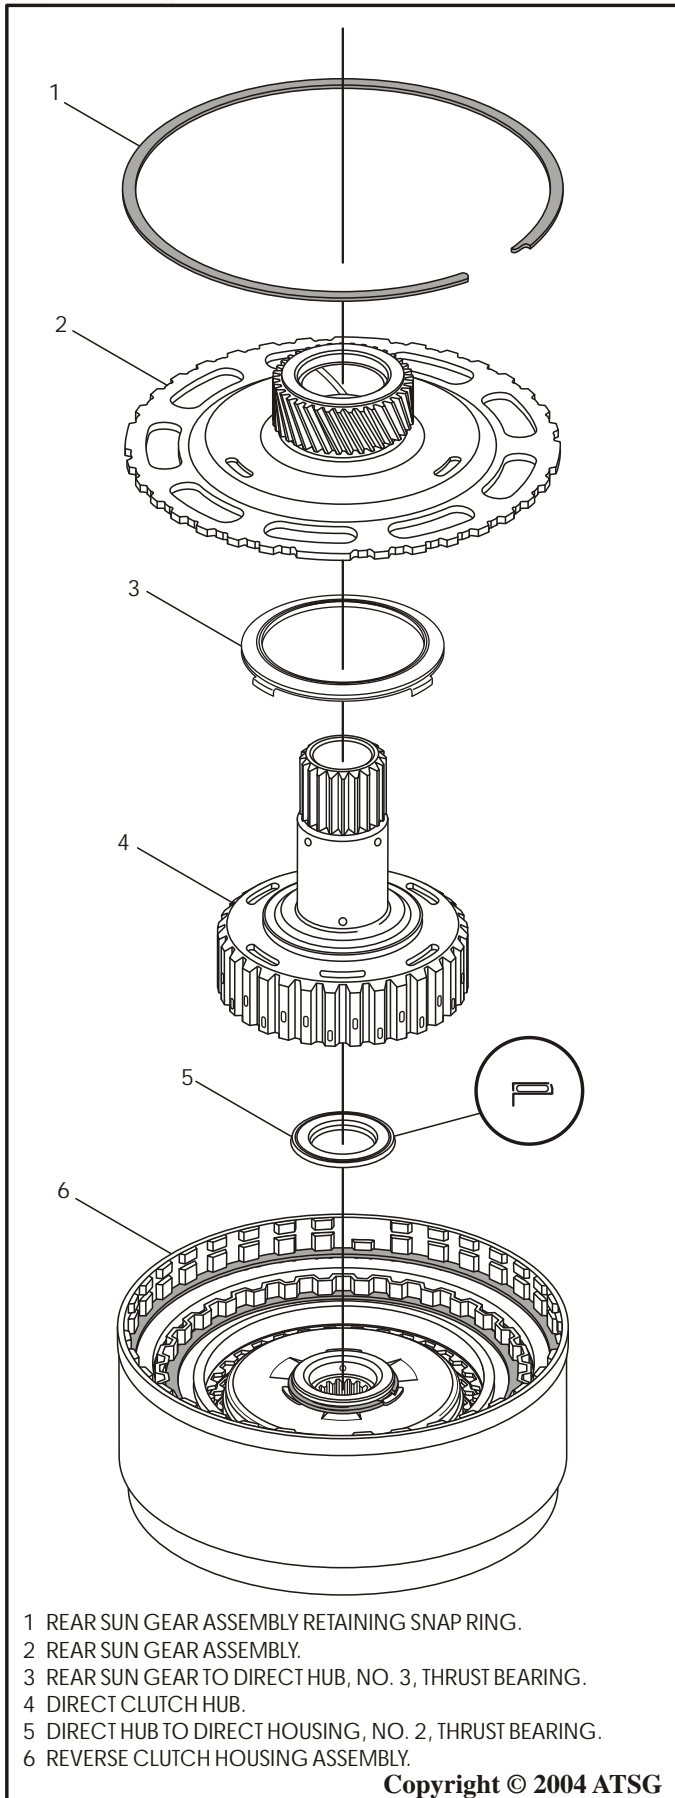

Figure 74
1. Lay the direct/reverse clutch housing assembly on flat a work surface, as shown in Figure 74.
2. Remove the snap ring that retains the rear sun gear, as shown in Figure 74.
3. Remove the rear sun gear to direct clutch hub number 3 thrust bearing (See Figure 74).
4. Remove the direct clutch hub, as shown in Figure 74.
5. Remove the direct clutch hub to direct clutch housing number 2 thrust bearing, as shown in Figure 74.